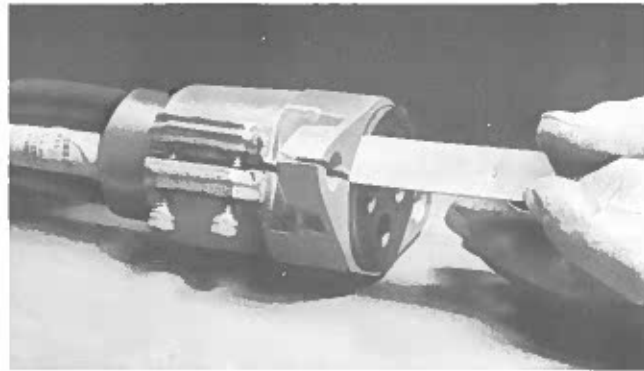

Figure 5 — Checking Gap, Terminal Box Clamp to Terminal Box
8. Refer to Figure 5. Slide the metal terminal box clamp (180) down over the terminal box (182) as far as possible, then check gap from bottom face of terminal box clamp (180) to bottom face of terminal box. This gap should be 1/32 min. (.8 mm) 3/32 max. (2.4 mm).
9. Replace the cable terminal box shipping cap (023).